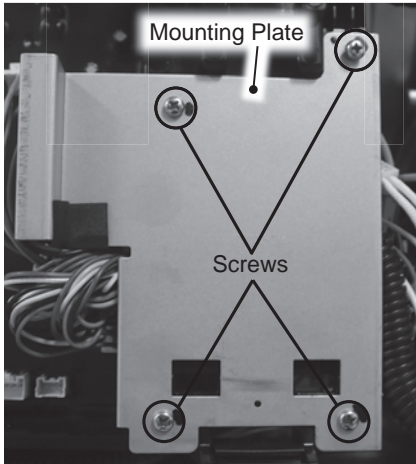

Figure 47 - Mounting plate screw removal.
- 16** Locate the four (4) screw securing the metal mounting plate. See Figure 47. Use a Phillips screwdriver to remove the screws. Place screws and mounting plate aside in a safe place for reinstallation.